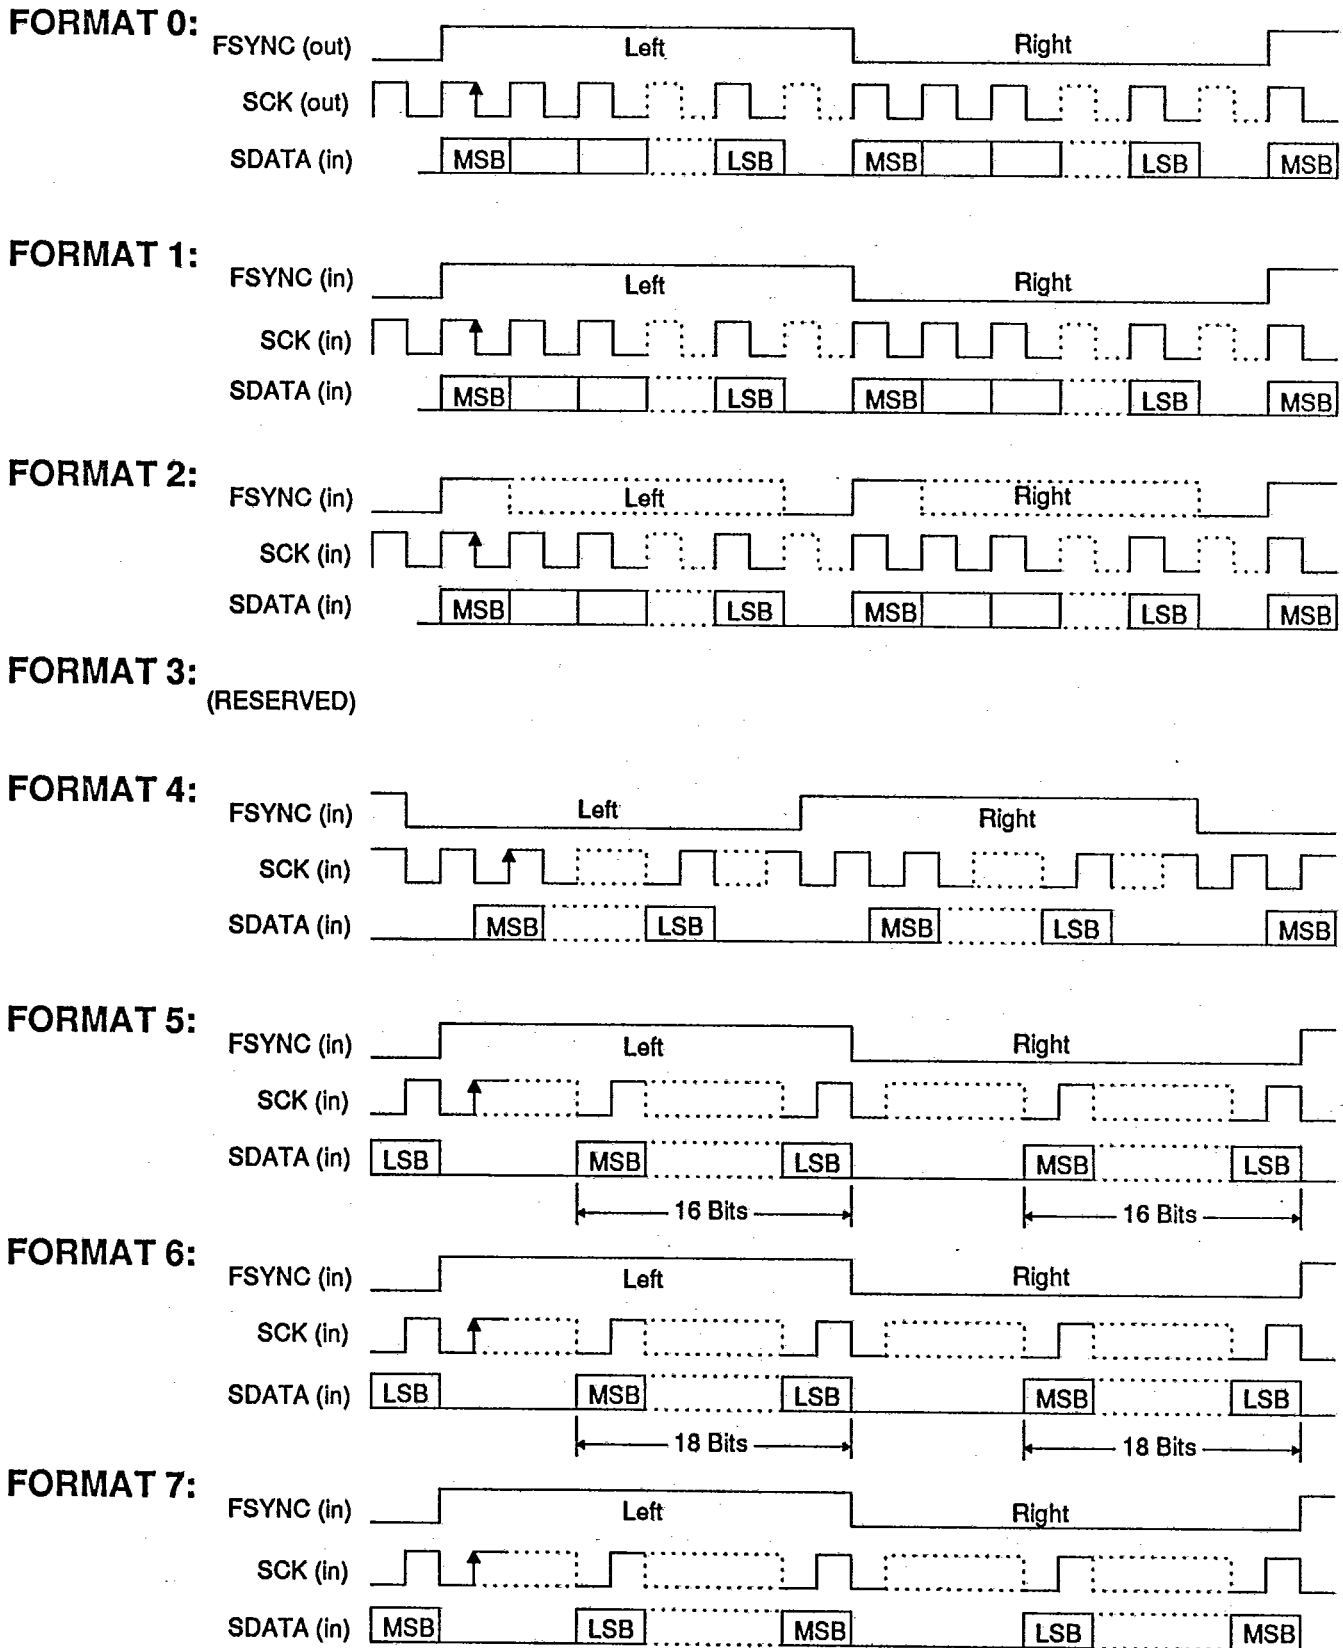

Figure 16. CS8402 Audio Serial Port Formats
The audio serial port is used to enter audio data and consist of three pins: SCK, SDATA, and FSYNC. SCK clocks in SDATA, which is double buffered, while FSYNC delineates the audio samples and may indicate the particular channel, left or right. To support many different interfaces, M2, M1, and M0 select one of seven different formats for the serial port. The coding is shown in table 3 while the formats are shown in figure 16. Format 0 and 1 are designed to interface with Crystal ADCs. Format 2 communicates with Motorola and TI DSPs. Format 3 is reserved. Format 4 is compatible with the I²S standard.
bit period after the active edge of FSYNC for all formats except format 4, which is sampled during the second bit period (coincident with the MSB). In figure 16, the arrows on SCK indicate when the C, U, and V bits are sampled. The C, U, and V bits are transmitted with the audio sample entered before the FSYNC edge that sampled it. The channel status serial input pin (C) is not available in consumer mode when the CD subcode port is enabled (FC1 = FC0 = high). Any channel status data entered through the channel status serial input (C) is logically OR'ed with the data entered through the dedicated pins or internally generated.